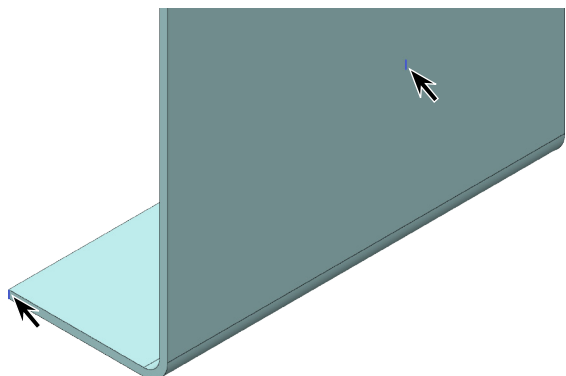

Fig. 34
Step 5. Use the arrow keys to pan over to the other flange, **Fig. 34**.
Step 6. Click **vertical corner edge** in front, **Fig. 34**.
Step 8. Click **vertical corner edge** in back, **Fig. 34**.